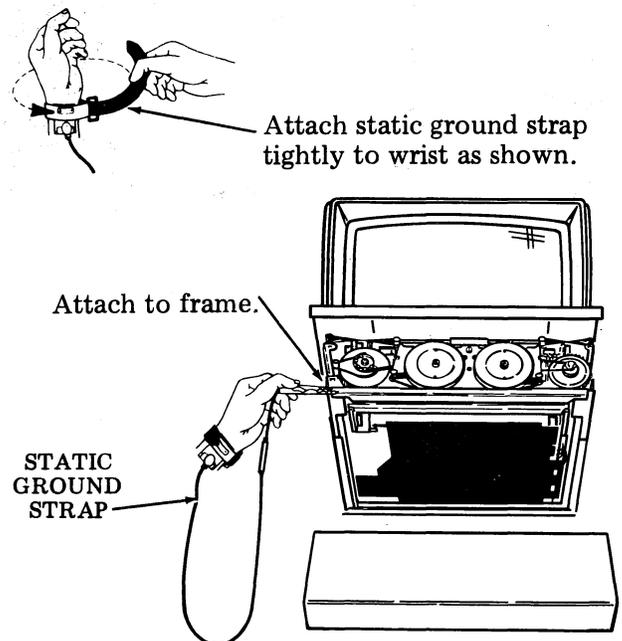

Fig. 1—346392 Static Ground Strap
*Caution 2:* To avoid possible internal damage to MOS circuitry whenever the 410071 or 410072 printer circuit card is removed, the 346392 static ground strap must be worn. The strap is not to be worn over clothing but must contact the skin tightly. The ground strap must be connected to ground (either "earth" ground or frame ground) via its associated clip (Fig. 1).